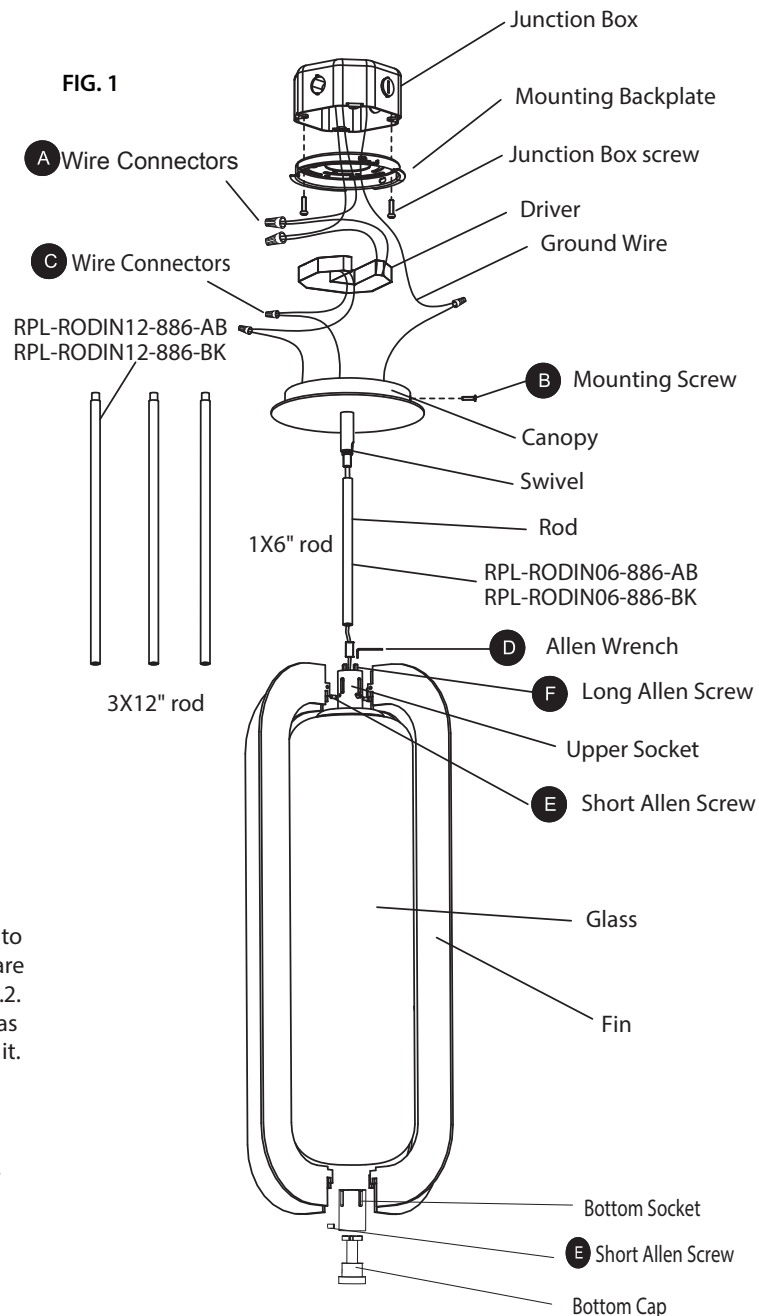

FIG. 2 Wiring
### CONNECTING THE WIRES (Fig. 2)
8. Cut the extra wire thread from the fixture. Connect the driver input wire with junction box as shown in Fig.2, make sure that all wire connectors (A) are secured. If your outlet box has a green or bare copper ground wire, connect the fixture's ground wire to it. Other wise, connect the fixture's ground wire directly to the back plate using the GND screw provided. After wires are connected, tuck them carefully inside the junction box.
10. Connect the driver output wire with fixture wire as shown in Fig. 3 .Red to the red, and black to the black, making sure that all wire connectors (C) are secured. Connect the driver input wires to junction box as shown in Fig. 2. Making sure that all wire connectors (A) are secured. If your outlet box has a green or barecopper ground wire, connect the fixture's ground wire to it. Otherwise, connect the fixture's ground wire directly to the back plate using the GND screw provided. After wires are connected, tuck them carefully inside the junction box.